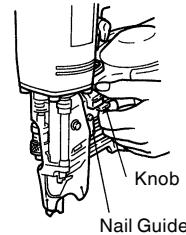

Fig. 1
- (1) Load nails in the magazine
- Grip the nail guide and knob with fingers. Then depress the knob to open the nail guide towards the left. (See Fig. 1)